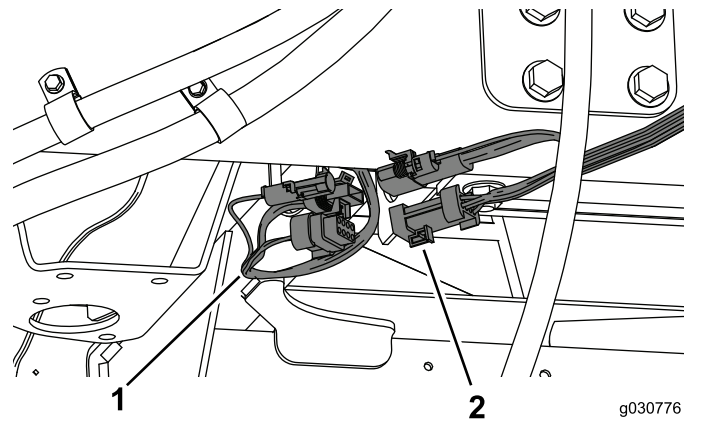

Figure 49
1. Connect the wire harness from the cab to the wire harness on the right side of the machine (Figure 49).